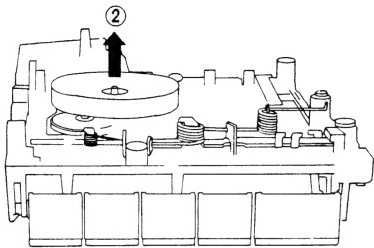

Fig. 6
2. Pull out the flywheel ass'y in the direction of arrow ②. (See Fig. 6)